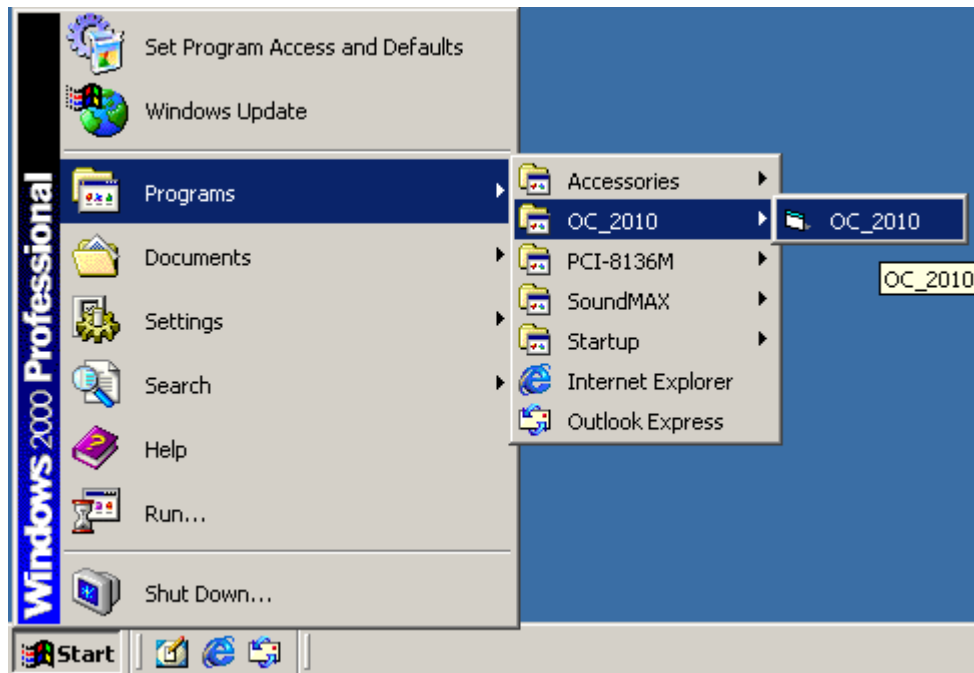

Figure 5 Start OC_2010 Software
4.2.1. Start OC_2010 software. See Figure 5 :